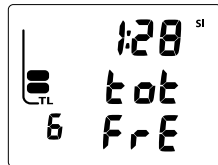

Fig. 95 - FRE ESURF MAIN
**FREE SURF MAIN**, information includes (Fig. 95) -